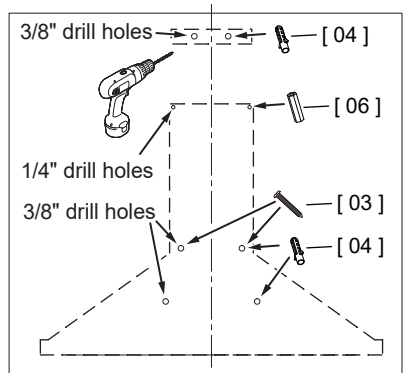

Fig 3
1. Drill holes at locations according to Fig 3 on the right and insert the matching anchors. (Fig 3)
2. Install two **#10 x 1.77" Screws [03]** to anchors for hanging the range hood as Fig 3 shows. Make sure to leave the screw heads out roughly 1/4" from the wall in order to mount the range hood. (Fig 3)